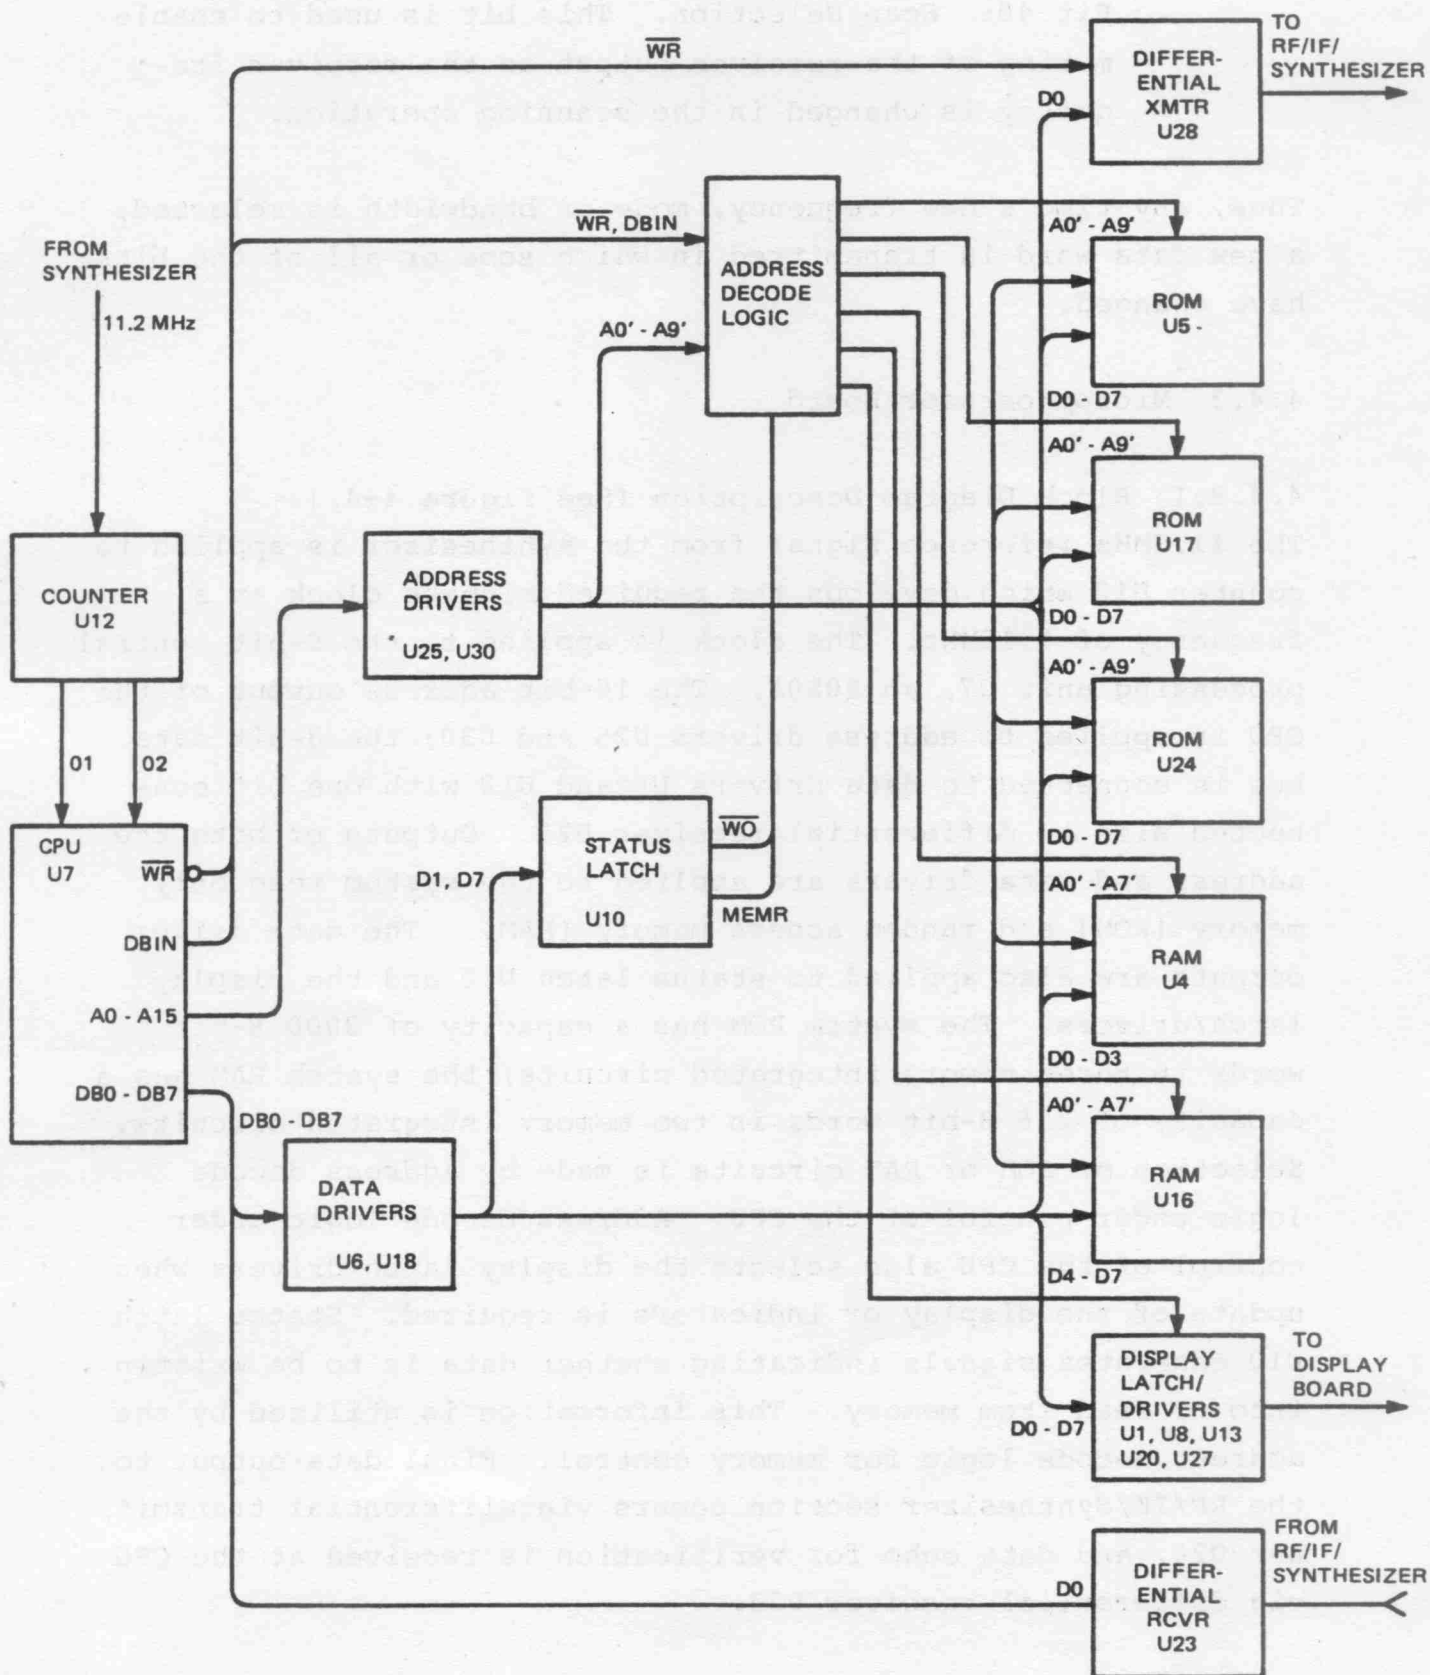

Figure 4-4 Microprocessor Board, Block Diagram
4.4.3.1 Block Diagram Description (See figure 4-4.)